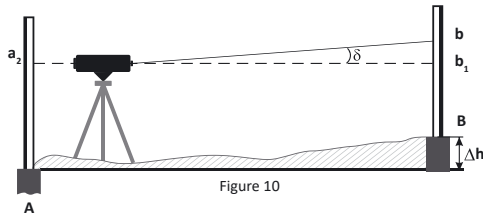

Figure 10
b) Move the instrument and set it at distance 1-2 m from the staff A (Figure 10). Level the instrument and take the readings a_2 and b_2 on the staffs A and B accordingly. If $|(a_2 - b_2) - (a_1 - b_1)| < 3$ mm, further adjustment is not needed.